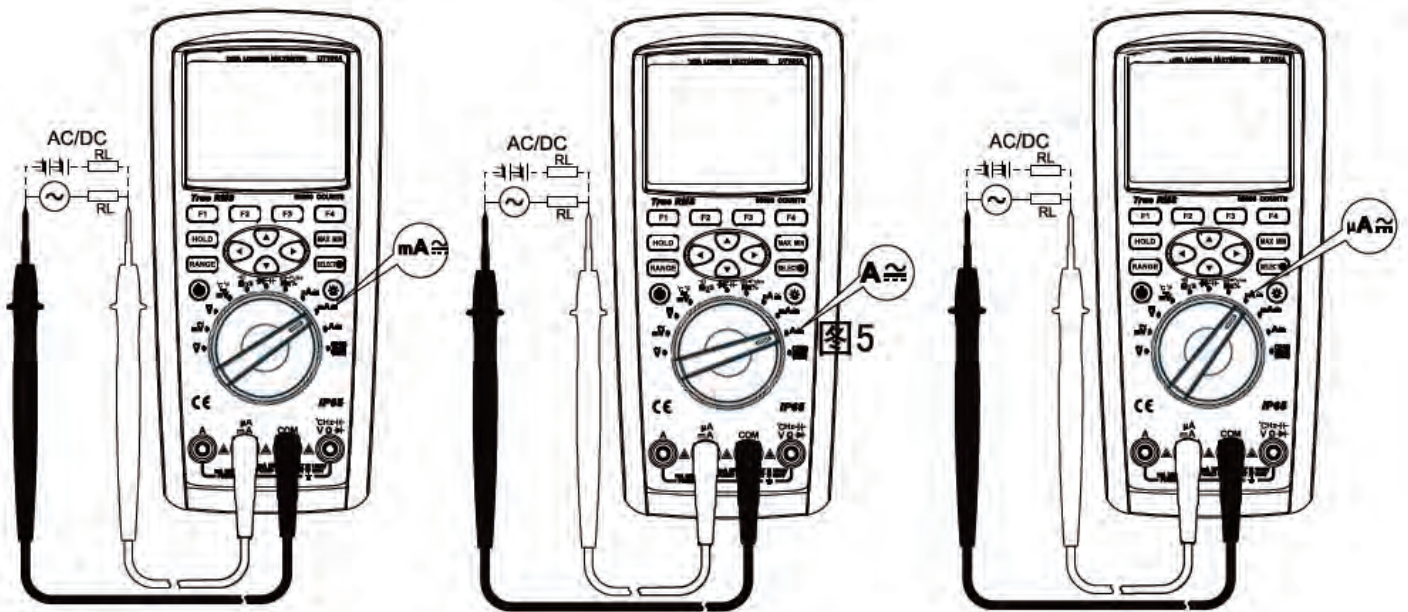

Figure 7
- 2) Set the rotary switch to the position as shown in Figure 7. Press the key "SELECT" to measure either AC or DC. Connect the test leads to the test circuit in series.